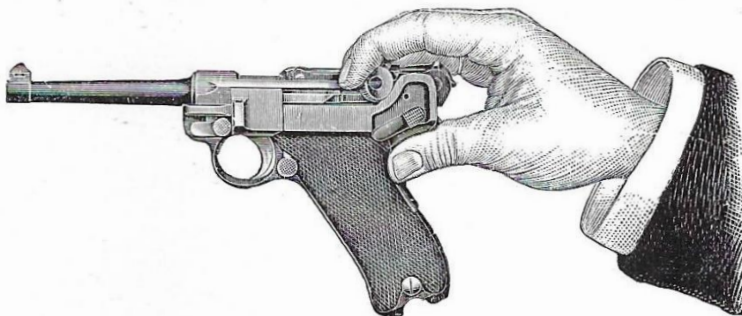

Fig. 7.
First take out the cartridge holder, pull back the breech as far as the cam (see Fig. 7. The thumb presses the shoulder of the safety sear, the first finger holds the left and the middle finger the right toggle joint
Whether the main parts are joined in the former or the latter way, the pistol is now held as shown in fig. 7, the automatic safety sear is pressed in, the breech mechanism is drawn back, till it reaches the curved surfaces. It is then held tightly in its position, the trigger plate inserted, with the rearward projecting narrow fillet beneath the slot in the casing and the small part pointing towards the locking bolt lever (24); this lever is then turned upward.